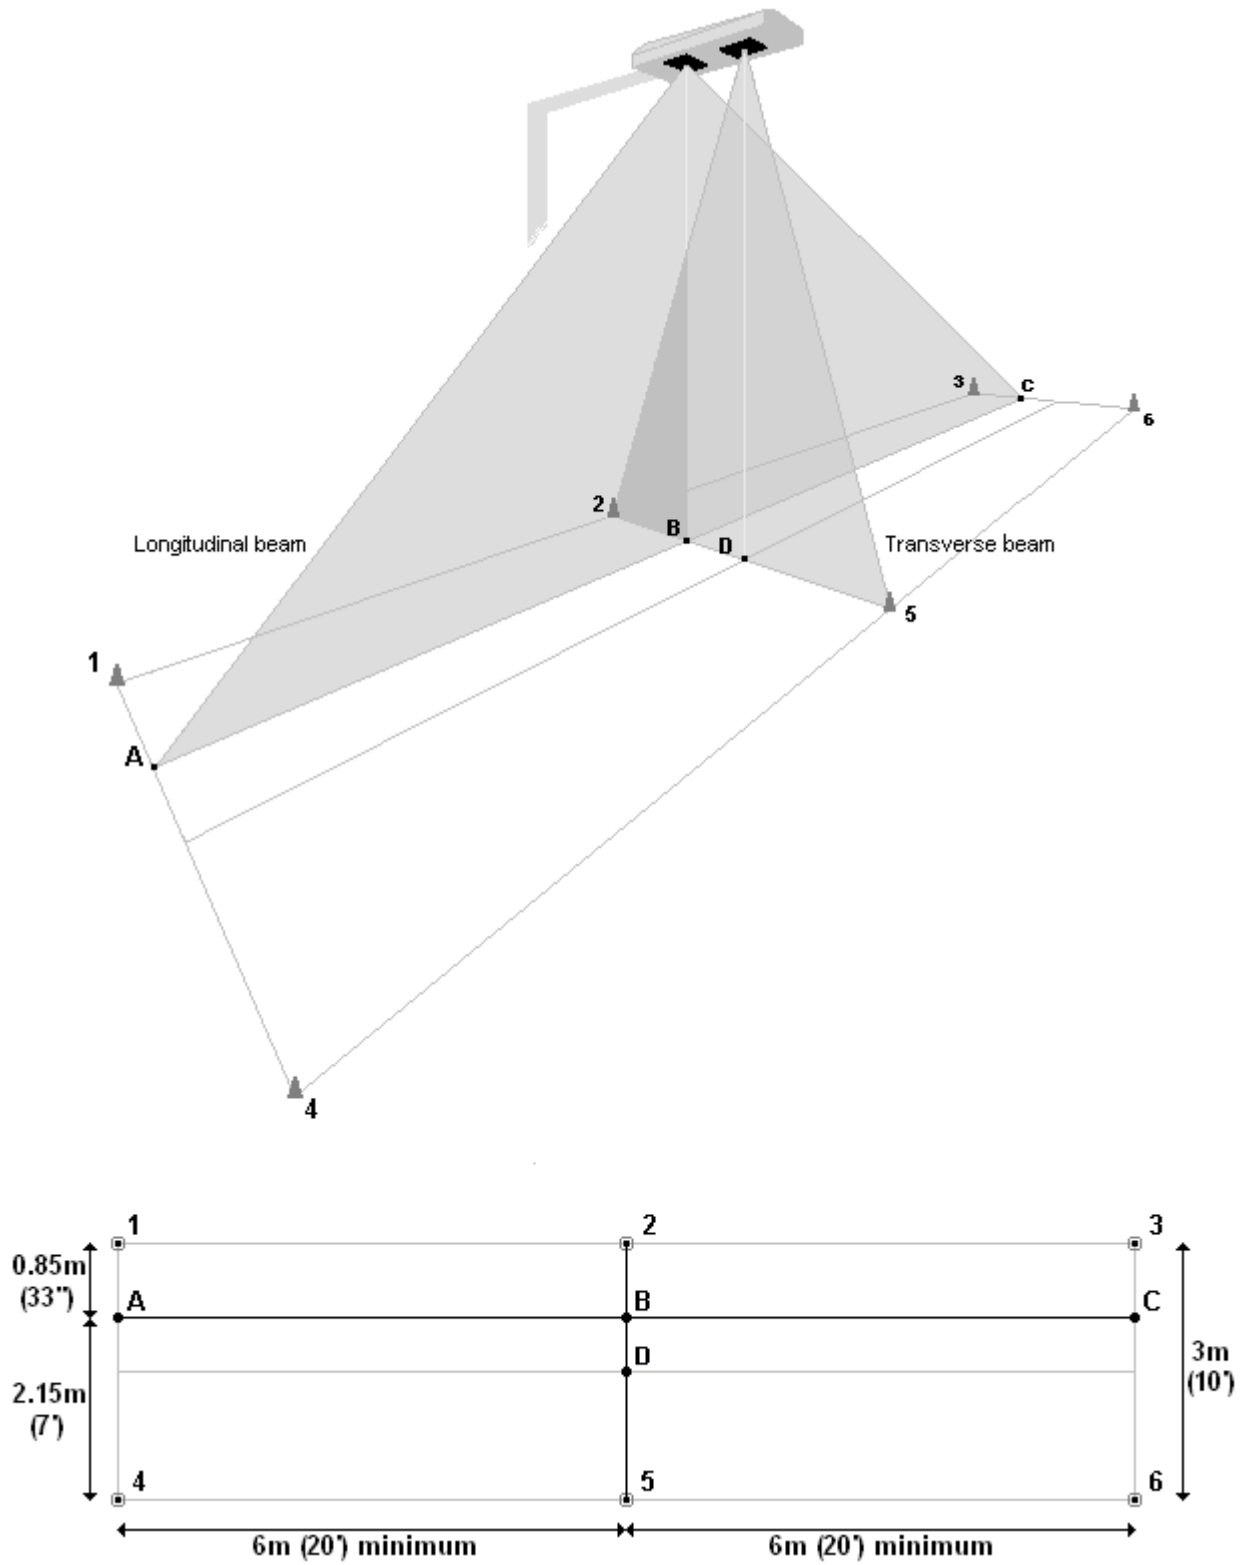

Figure 27 – Standard LVS scan area layout for on-road truck and trailer units
1. Install the LVS so that the Scan Head is in a stable position across the scan area, perpendicular to the desired vehicle travel direction and aligned parallel to the ground (figure 27). The transverse beam lens (outer most black lens) should be directly above the desired centre-line of the track. Clearance from the bottom of the two scanning lenses to ground should be about 5.3m (17.4').
The Scan Head produces two invisible (infra-red) scanning laser beams in perpendicular planes as shown in figure 27. The **longitudinal** beam scans along the line between points **A** and **C**. The **transverse** beam crosses the longitudinal beam at point **B**. The centre of the track, corresponding to the point directly below the transverse laser lies at point **D**.
Note for large off-highway dump trucks: the track should be widened to the minimum feasible width for the vehicles to be scanned. Widen the track an equal amount either side of the standard 3m track so that point **D** in figure 27 remains at the centre of the track. The height of the scan head may also need to be increased. Contact your LoadScan representative with your truck specifications for height requirements.
2. Change the **MODE** selector to BEAM DETECT. In this mode the LVS indicates when either the longitudinal or transverse scan beam is broken by an object in the scan area crossing the beam above ground level. The location of the detected beam interruption (distance along the ground relative to the beam centre directly below the scan head) is reported on the System screen and on the message board. This function can be used to find the location of the longitudinal scan beam along the ground, between points A and C in figure 27, to a maximum of about 8m (26') from the scan head.